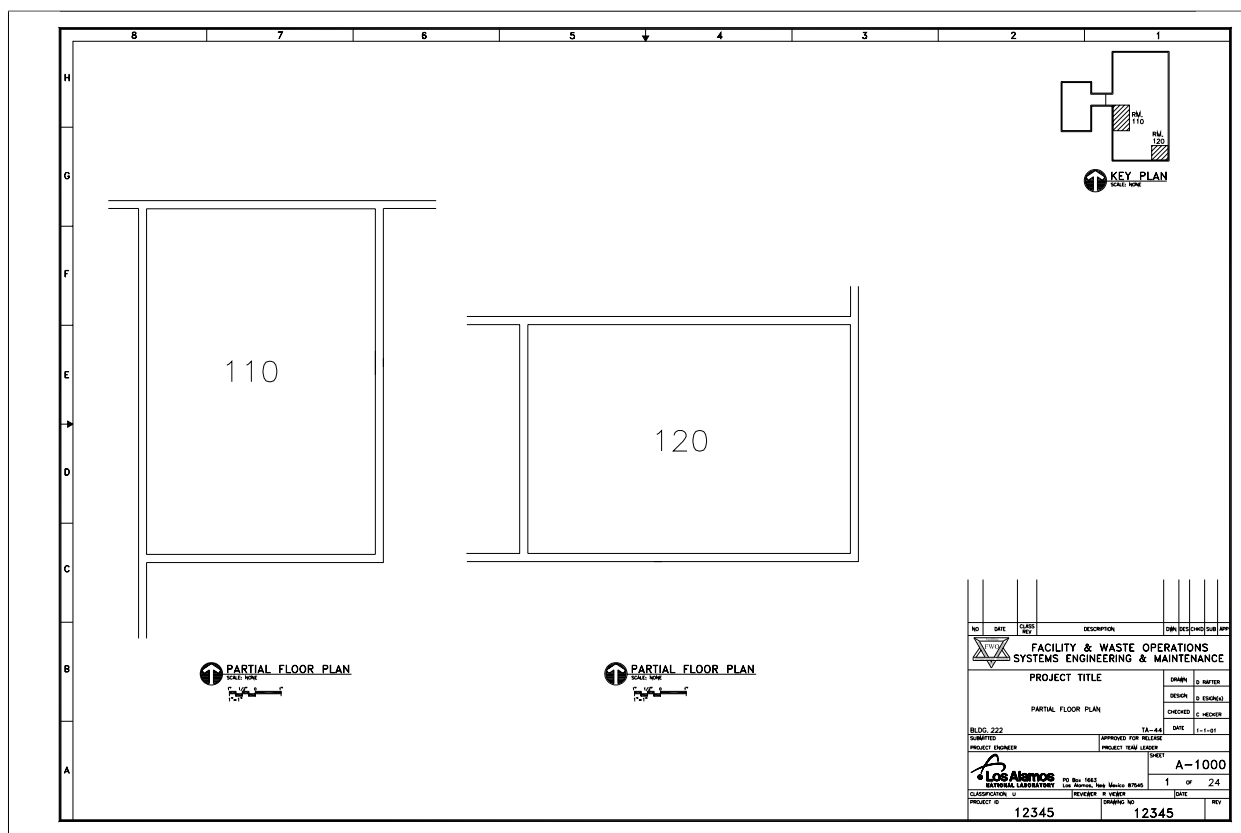

Figure 206-1
- Use a key plan (see Figure 206-1).
- B. In the illustration above, 3/32" text (the minimum allowable) is shown for the distance designations for all graphic scales because of the limited space available. The drawing scale designation text is shown at 1/8". These text heights were selected for graphic clarity. Graphic scales are to be centered and 1/4" below the drawing title, see Figure 206-1 and 206-2 for examples.